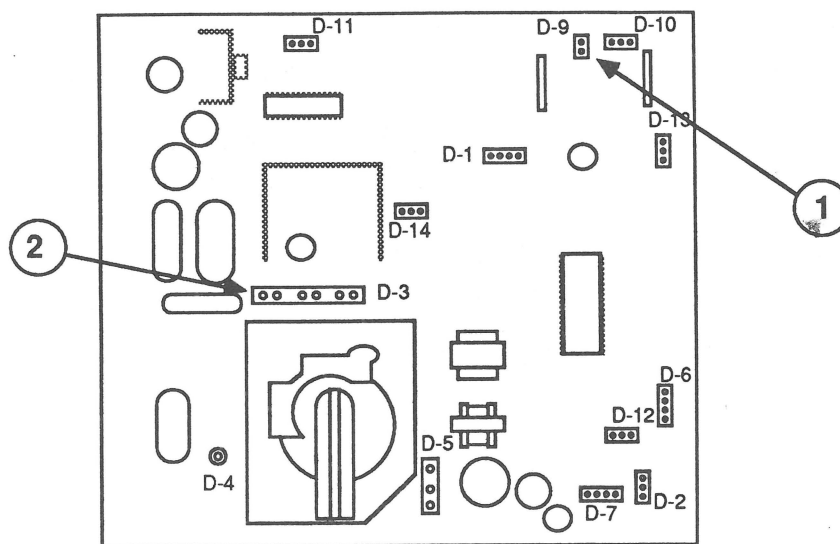

FIGURE 36
6. Disconnect from main logic board "D" the connectors that are listed in Table 6 and shown in Figure 36.